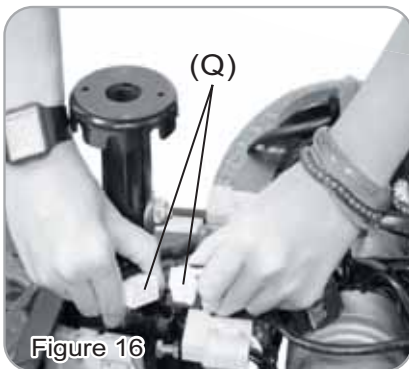

Figure 16
Disconnect front&reat section wire harness (Q) , then tear off battery straps (R) and battery terminals (S) to remove the batteries (b). (Figure.16 & 17)